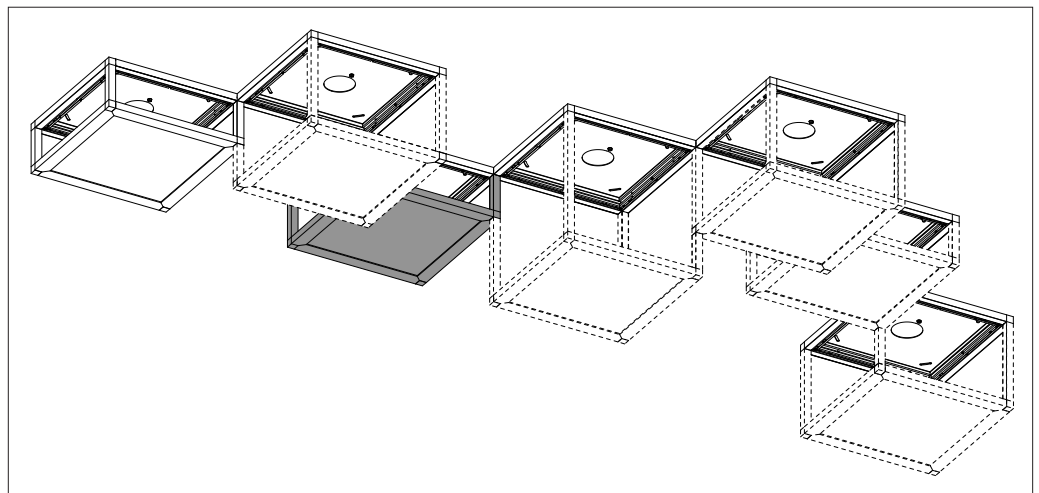

Fig. 4b
- 9c. Section as part of whole assembly shown in Fig. 4b.